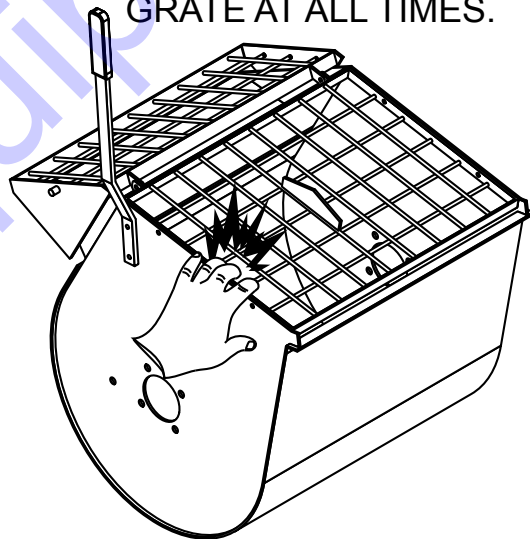

Figure 39. Safety Grate (Crush Hazard)
6. **NEVER** pour or spray water over the engine or electric motor (Figure 39).